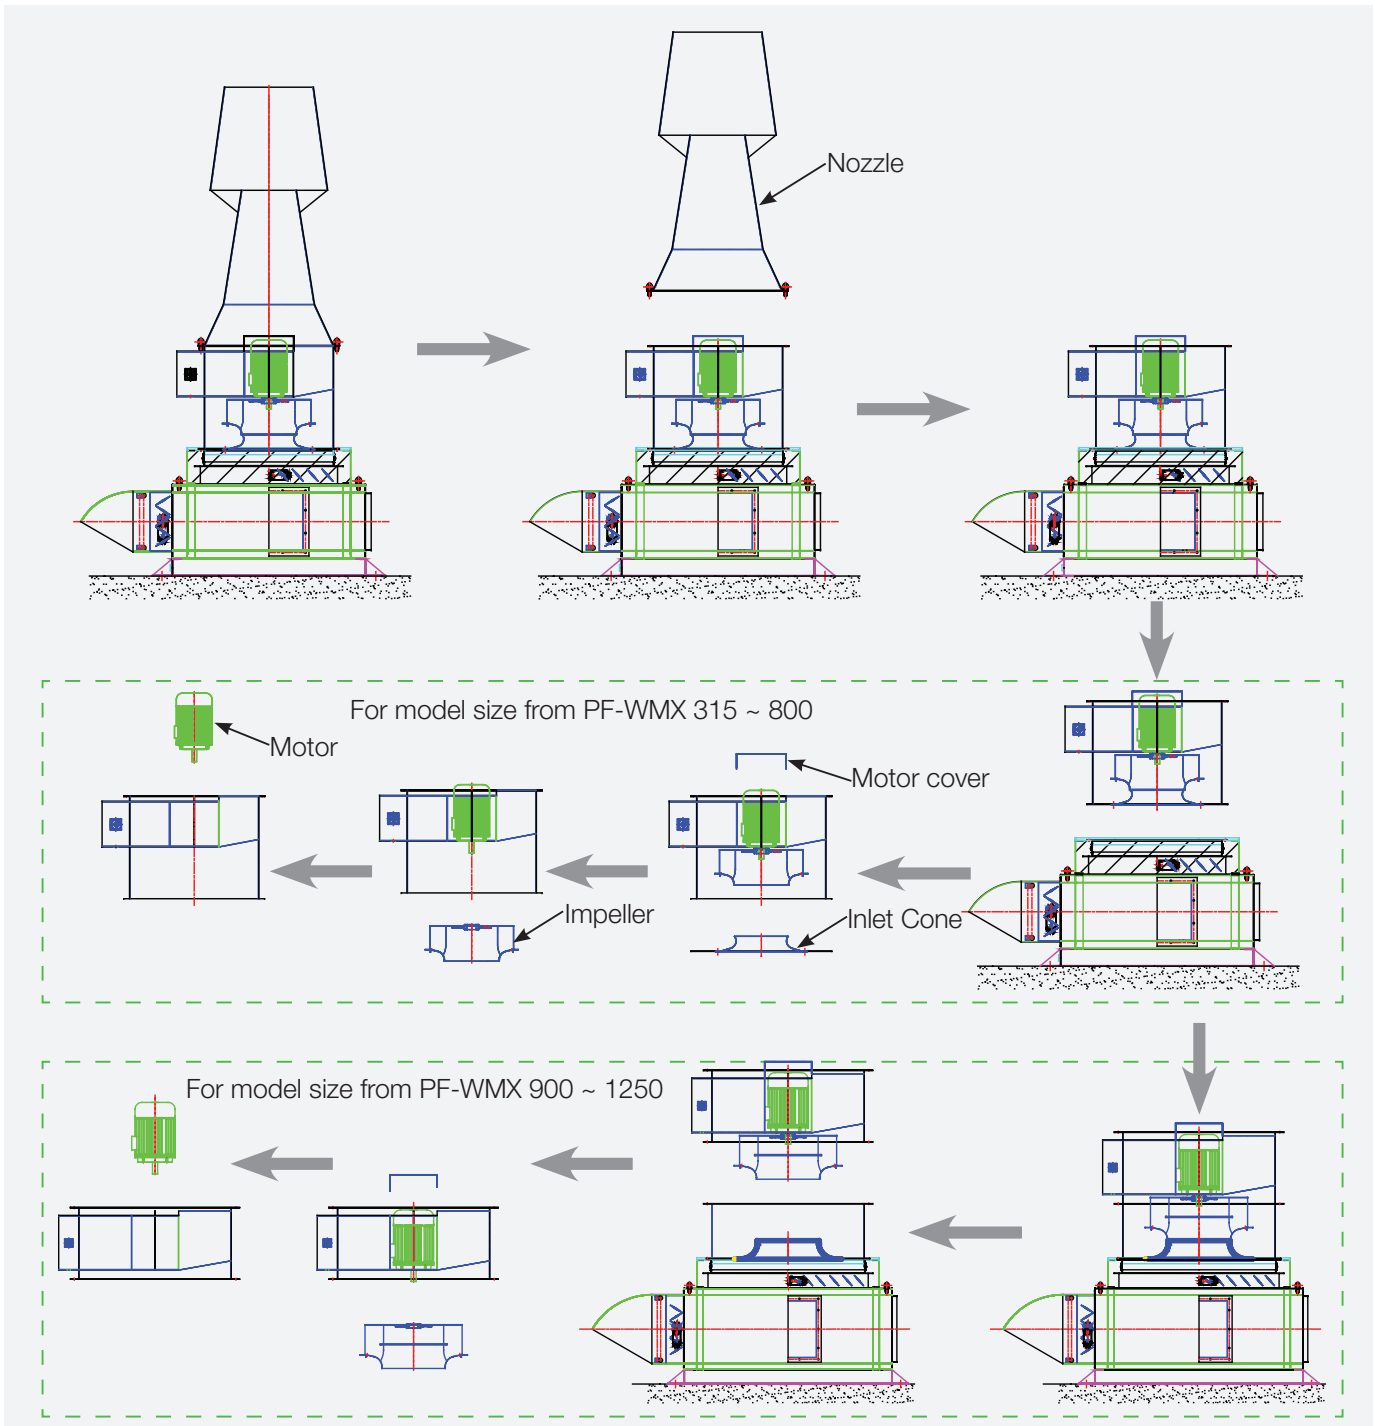

Figure 6) Removing Motor and Impeller - PF-WMX Series
- j) Unbolt to remove the motor by lifting the motor out of the fan casing (refer to Figure 6)